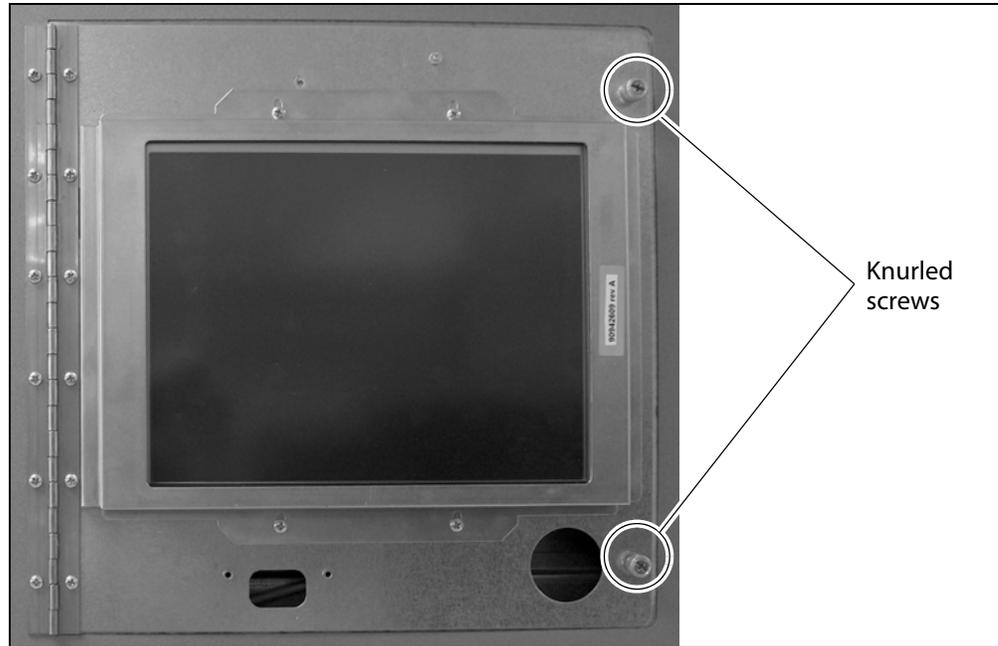

Figure 40 Loosen the knurled screws to open the hinged LCD panel.
9. Close the LCD panel and tighten the two knurled thumb screws to secure it closed (see Figure 40 on page 42).